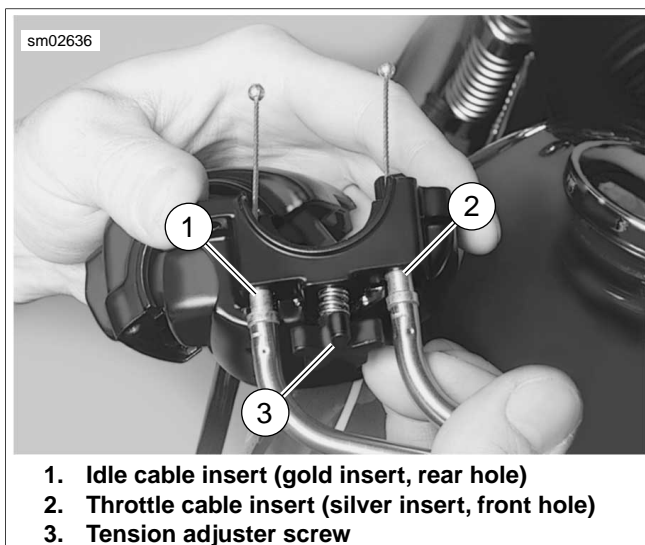

Figure 7-86. Right Lower Switch Housing
1. See Figure 7-86. Push the throttle and idle control cables into the lower switch housing until they snap in place. Note the different diameter inserts crimped into the end of the throttle and idle cable housings.
- a. Push the silver insert (2) of throttle cable housing into the hole in front of tension adjuster screw (3).
- b. Push the gold insert (1) of idle cable housing into the hole at the rear of tension adjuster screw (3).